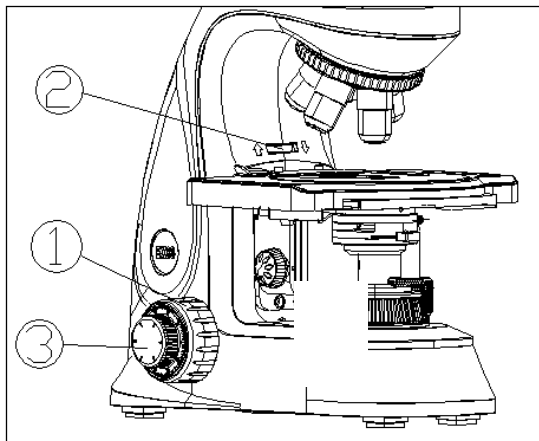

Fig. 8
Using your left eye only and the 10X objective, focus your specimen by adjusting the coarse focusing adjustment knob ① (Fig. 8), then refine the image to its sharpest focus by turning the fine focusing adjustment knob ③ (Fig. 8)
★ A stage upper limit adjustment wheel ② (Fig. 8) can be used to prevent the objective from touching (breaking) the slide when focusing. With a sample on the stage, focus on the specimen. To adjust the upper stage limit, loosen the stage upper limit locking screw on the back of the frame (see page 5 or 7), rotate stage upper limit adjustment wheel to increase or decrease stage upper limit, then retighten the locking screw on the back.